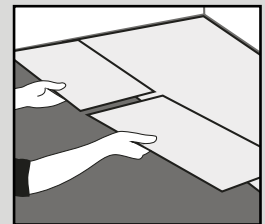

Fig. 4a
5. Install the next plank/tile by lifting the edge of the previous plank easing the tongue and groove together on the end joint, then slide in the long side which can then be tapped into position with an "off cut of material" or tapping block. (Fig. 4a, 4b & 4c). Tiles and planks should be installed "off-set" such that their four corners never meet (Fig. 5a and Fig. 5b).